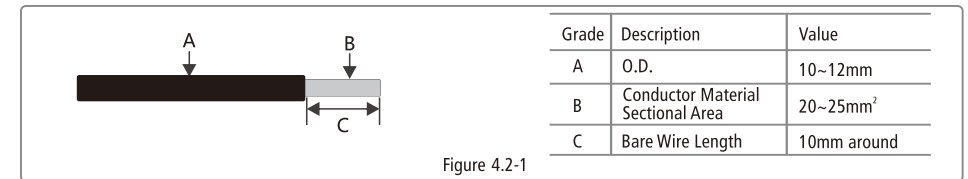

Figure 4.2-1
- It's very important for system safety and efficient operation to use appropriate cable for battery connection. To reduce risk of injury, please use the proper recommended cable size. Refer to Figure 4.2-1.